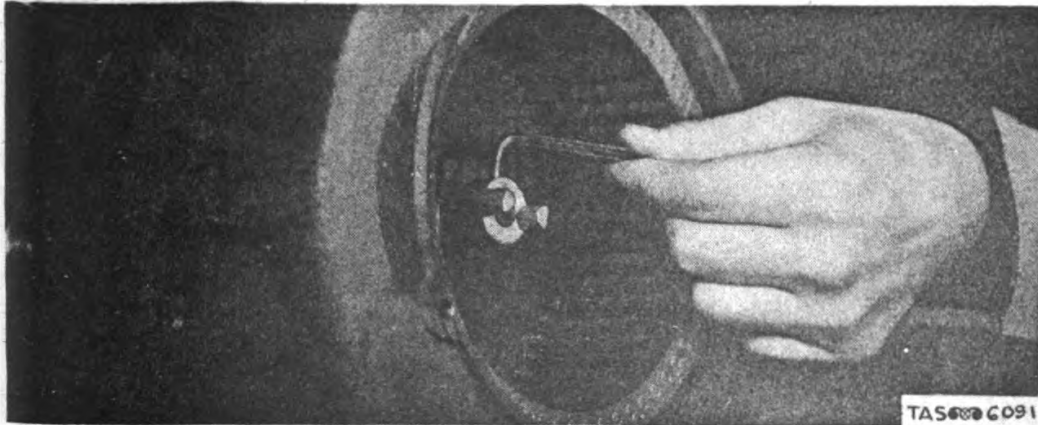

Fig. 91. Loosening Set Screw on Steel Part of Flexible Coupling and Removing One-half of Steel Part of Coupling.
5. Loosen set screw on steel part of flexible coupling and remove one-half of steel part of coupling. (See fig. 91.)